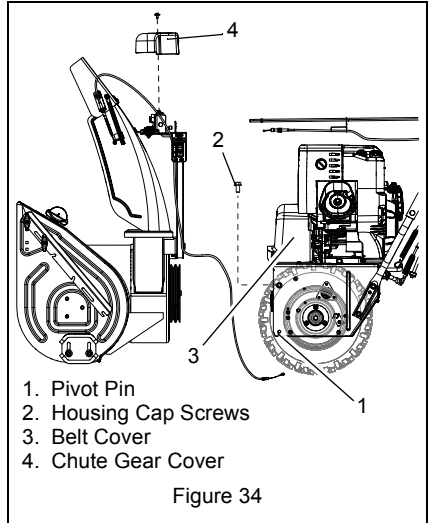

Figure 34
(Figure 34)
2. Loosen hardware securing belt cover to unit (Figure 34).
10. Remove hex bolts securing housing to frame (one on each side). Tip housing and frame apart on pivot pin (Figure 34).